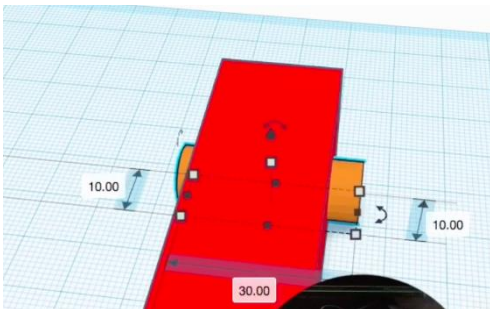

Figure 12: Cylinder with sides changed to “10”
- Click on the “20” on top of the cylinder and change it to “30.” Then place the cylinder at the center of one end of the red block. Then change the “20” on the left of the cylinder and the “20” on the right of the cylinder to “10” (see Figure 12).